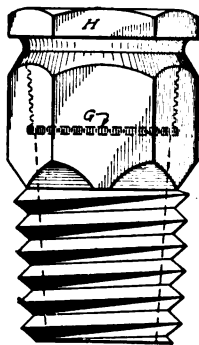

Fig. 25 How a Motorist Plugged a Broken Spark Plug with a Dime
**Spark Plugs.** Plugs, whether of mica or of porcelain, give trouble if they break, if they are poorly set in the cylinders, if they become badly carbonized, if short-circuited by water, etc. Sometimes a plug will break off on the road. When this happens and the driver has no other, he can disconnect the wire leading to that member, and limp home with but three cylinders firing. One motorist managed this with a broken plug, which fell apart when touched with the wrench, leaving a hole in the cylinder. He had no extra plug, and nothing to fit the hole, which left open would allow gas to escape. As shown in Fig. 25, he overcame this by finding out that a dime just fitted the interior of the plug. Then he drove this in, as shown at *G*, screwed the plug shell back in